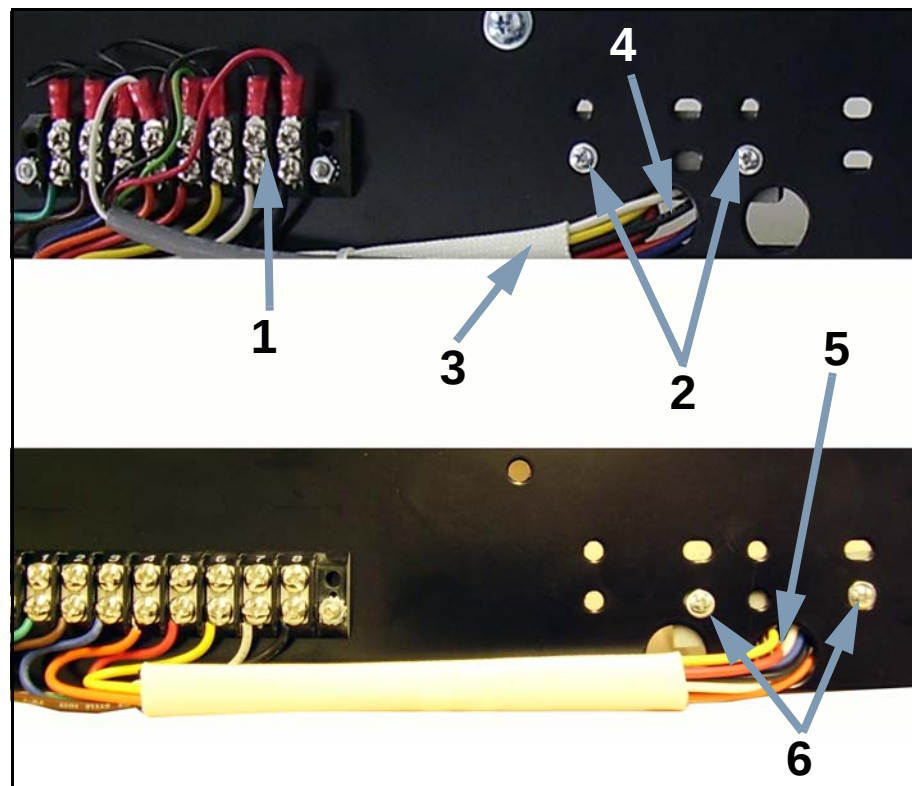

Figure 5-21. Repositioning PBL Connector
- 39 Disconnect all wires from terminal (1 in Figure 5-21).
- 40 Unscrew connector screws (2).
- 41 Pull connector and harness (3) out through hole (4).
- 42 Feed harness through hole (5).
- 43 Mount connector in new position with screws (6).